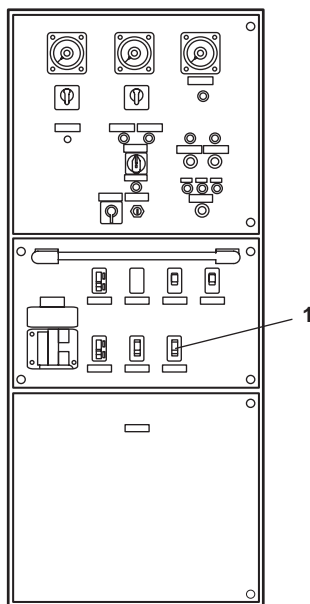

Figure 2. EDG Emergency Switchboard
- a. Lo-15, LUBO STOR. TK. OUT. (figure 2, item 1)
- b. Lo-7, C.O.V. - LUBO XFER PMP. SUCT. (figure 2, item 2)
6. Line up Lo-18, LUBO SPLY. to the lube oil manifold position (figure 2, item 3)
2. At the emergency switchboard, in the emergency diesel generator room, set the FUEL OIL XFER PUMP circuit breaker (figure 2, item 1) to ON.